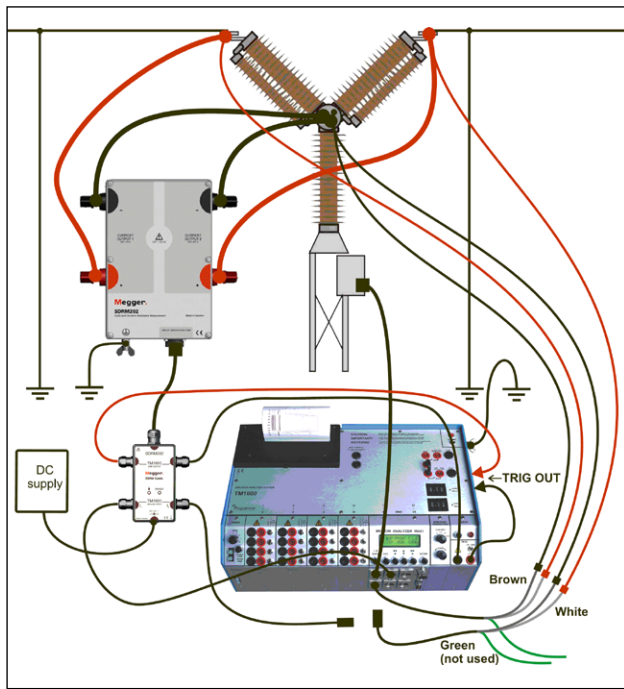

Fig. 7.2.1 Hook up example. Figure shows hook-up with SDRM202. The SDRM201 is hooked-up the same way but with only one channel.
- 1] Hook up the SDRM201/202 to the CB, see example in figure 7.2.1.